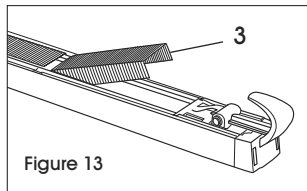

Figure 13
2. Place staple strips (3) into magazine from the top. (See Figure 13)